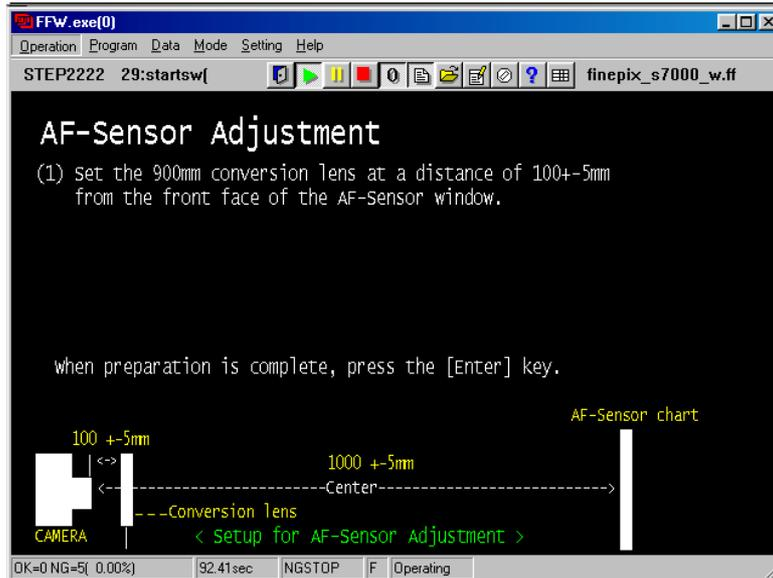

Fig.10
---> The [AF-Sensor adjustment 900mm Screen (Fig.10)] appears.